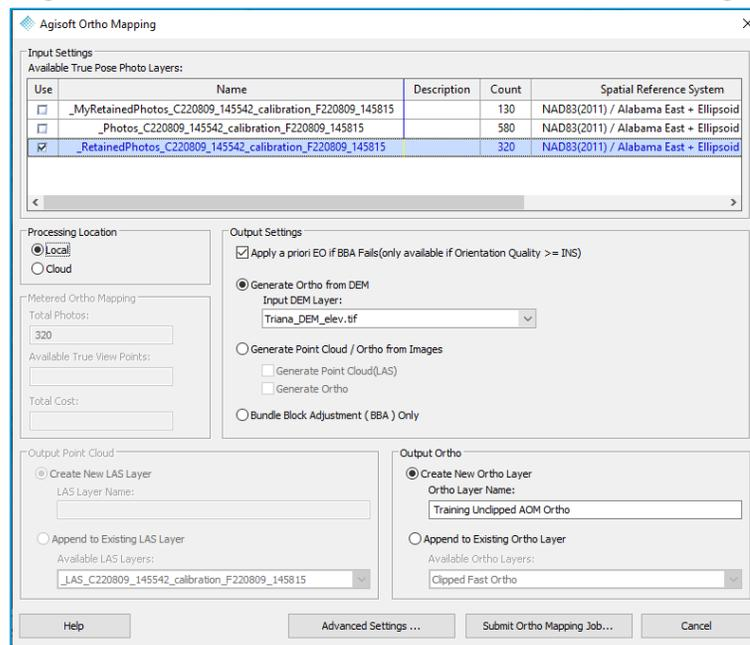

Figure 111 – Agisoft Ortho Mapping dialog
- 15. Select **Agisoft Ortho Mapping**  on the Sensor tab (Figure 110) to open the Agisoft Ortho Mapping dialog (Figure 111). **Note:** To enable this tool requires a "Full Photo", "Photo with Agisoft", or "Photo3000" addon license be checked out in addition to the LP360 Drone license.